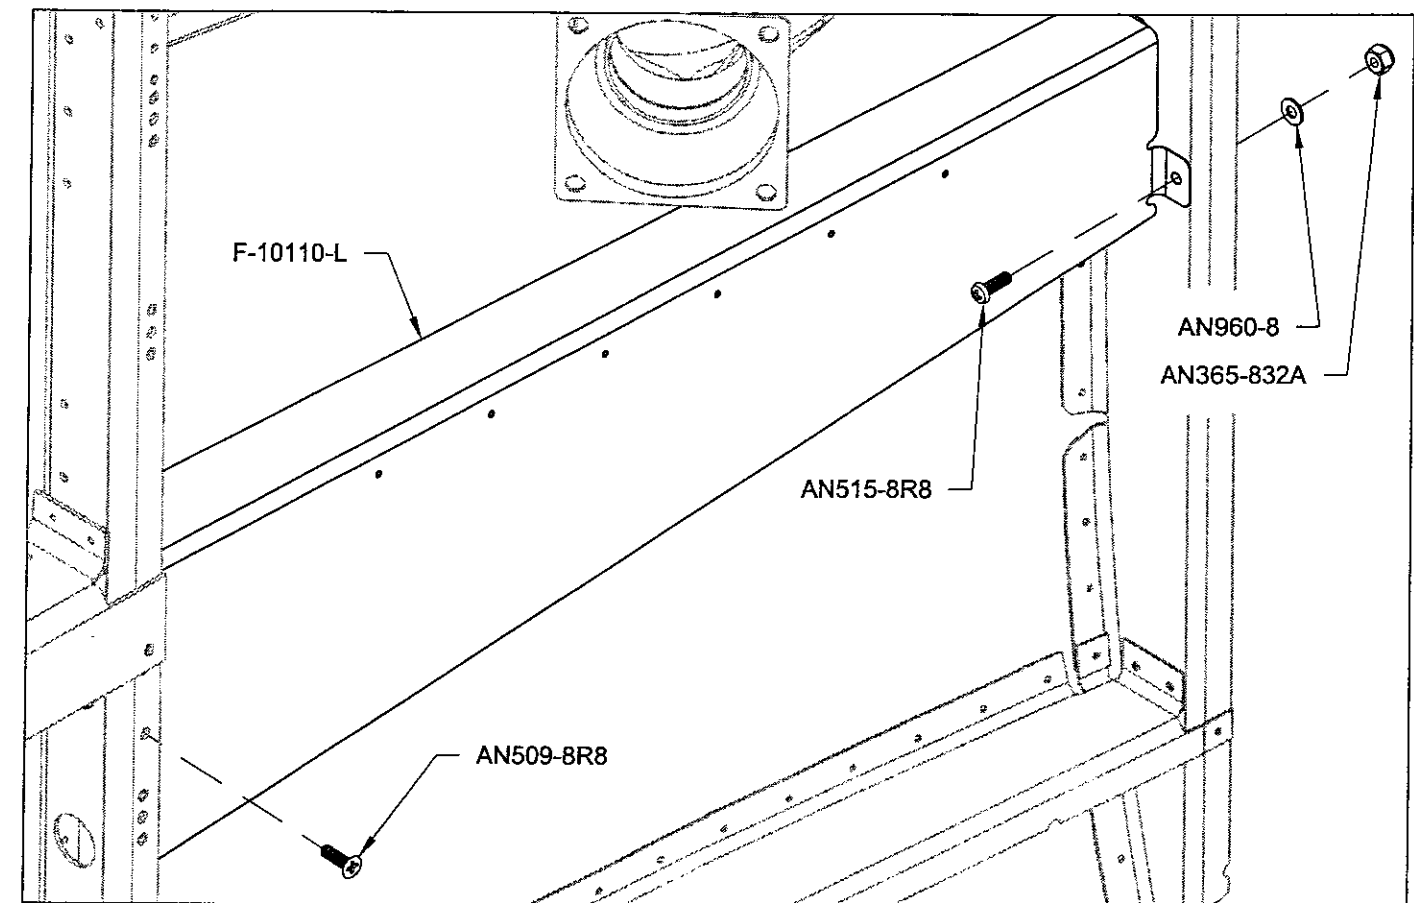

FIGURE 1:
Step 17: Install the F-10110-L Wire Cover Assembly using the hardware called out in Figure 1 upon completion of the electrical system. The F-1015D-L Fuselage Side Panel is not shown.